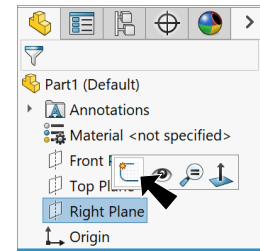
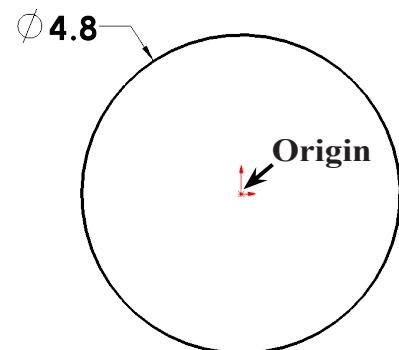

Fig. 1
Fig. 2
Step 2. Click **Right Plane**  in the Feature Manager and click **Sketch**  on the context toolbar, **Fig. 1**.
Step 3. Click **Circle**  (S) on the Sketch toolbar.
Step 4. Sketch a **circle at Origin** , **Fig. 2**.
Step 5. Click **Smart Dimension**  (S) on the Sketch toolbar.
Step 6. Dimension **diameter 4.8**, **Fig. 2**.